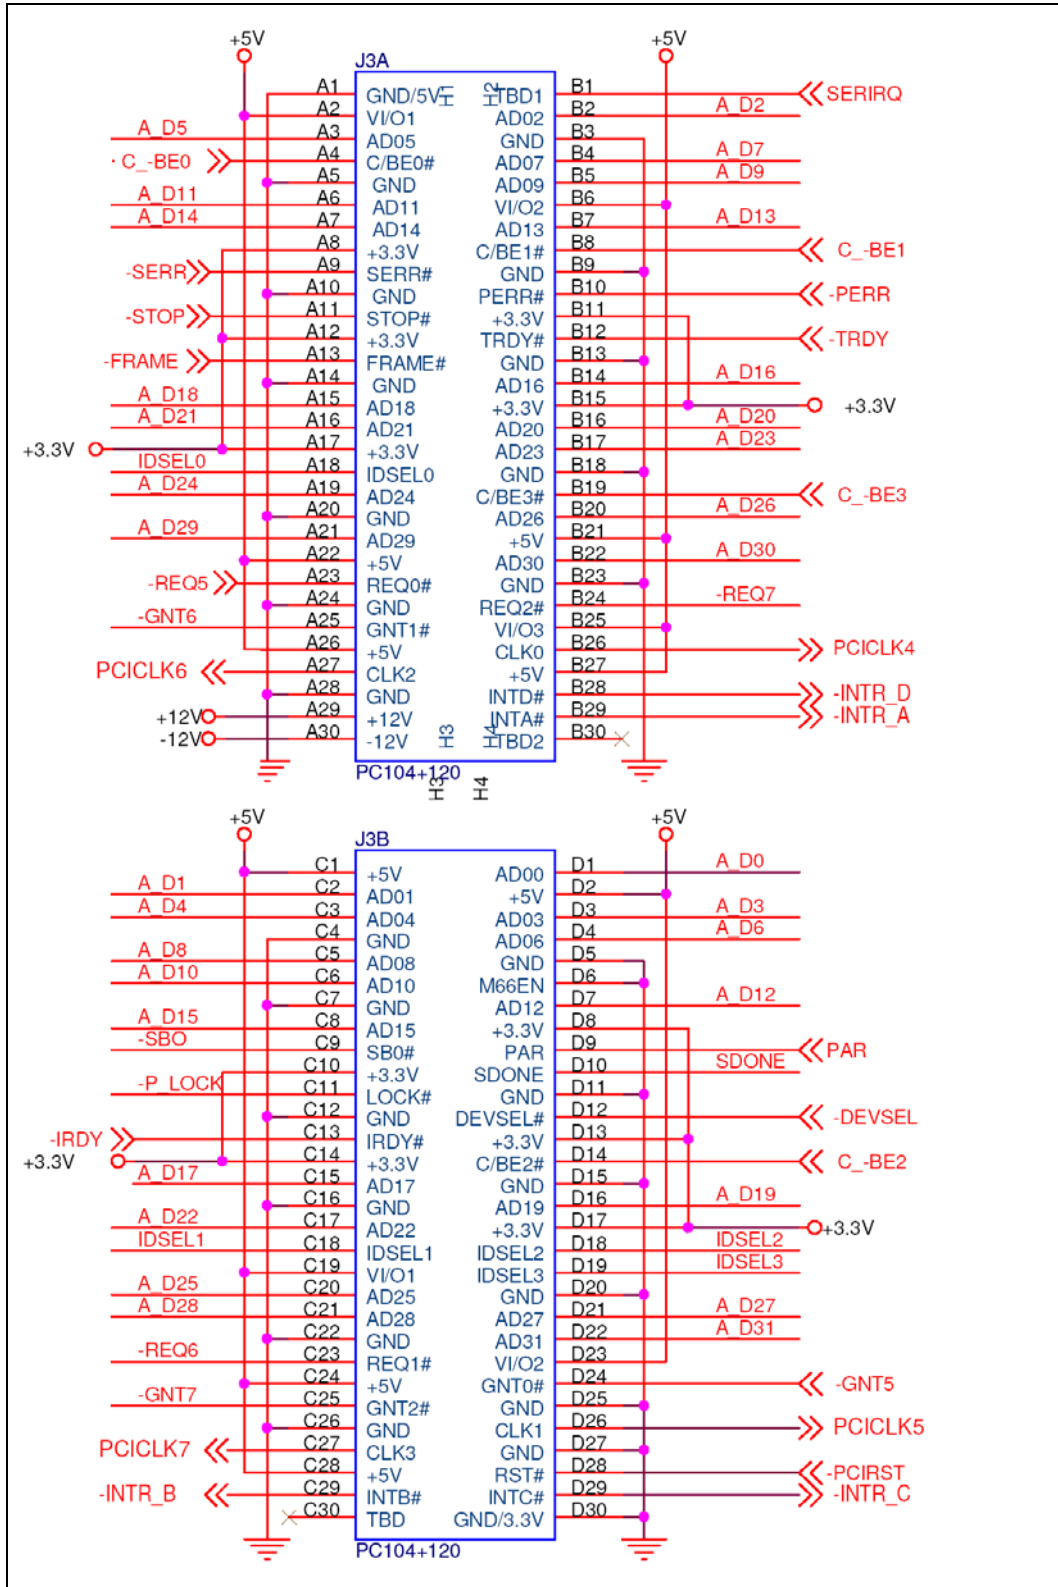

Figure 4-10: PCI-104 Slot Location
- CN Location:** See **Figure 4-10**